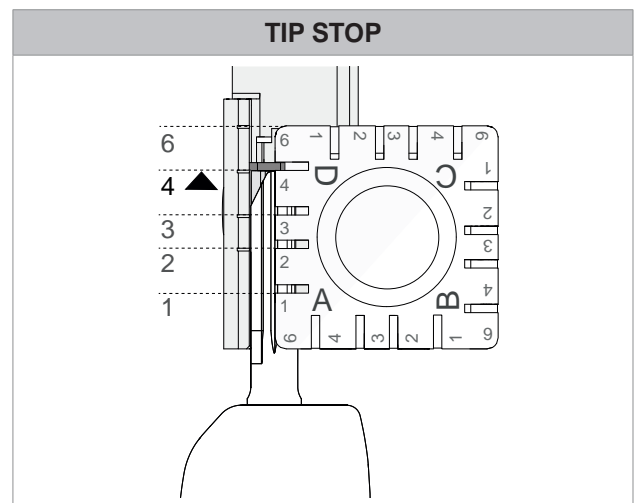
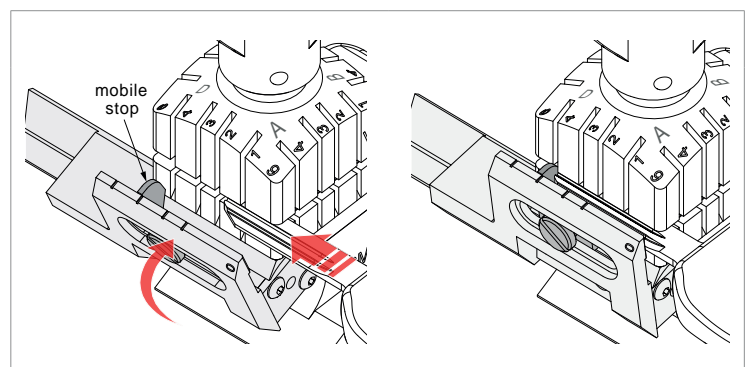

Fig. 72
Fig. 74 - mobile stop
- To fit keys with tip stops into the clamp, use the mobile stop on the gauge (Fig. 74) to be fitted into the special grooves (Fig. 72).